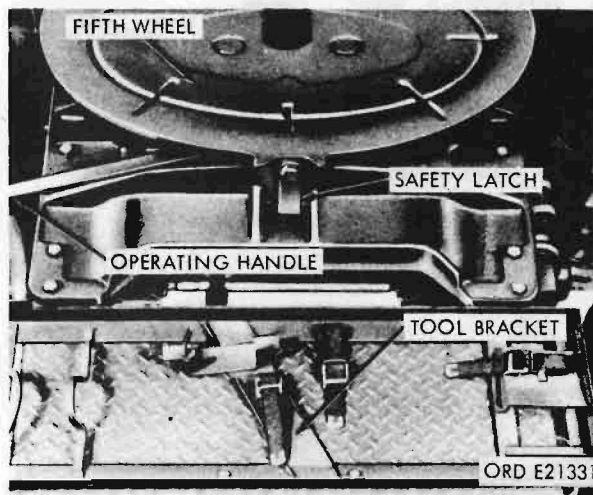

Figure 62. Coupler jaw locking plunger operating handle and safety latch
- (3) Coupler jaw locking plunger operating handle (fig. 62). The coupler jaw locking plunger operating handle, extending from beneath the right side of the fifth wheel, controls the coupler jaws which secure the semitrailer kingpin.
- (4) Coupler jaw locking plunger safety latch (fig. 62). The coupler jaw locking plunger safety latch, located at the top front of the fifth wheel, locks the coupler jaws on the fifth wheel to prevent the unintentional release of the semitrailer kingpin.